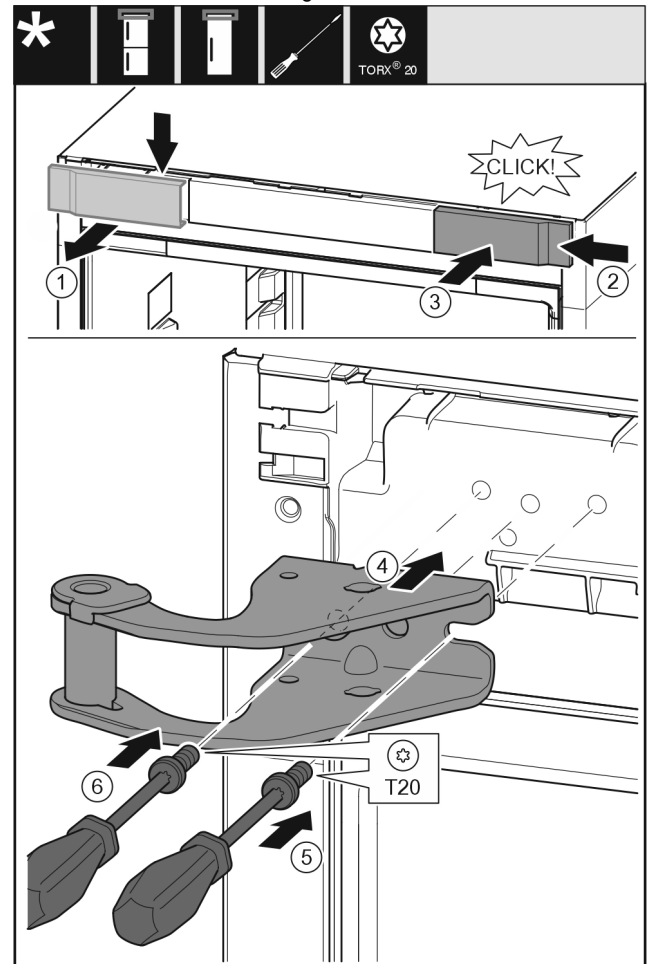

Fig. 11
- Take off the cover to the front from above. Fig. 11 (1)
- Rotate the cover 180° and clip onto the other side from the right. Fig. 11 (2)
- Latch the cover into place. Fig. 11 (3)
- Position the upper bearing bracket. Fig. 11 (4)
- Insert the screw with a T20 screwdriver and tighten it. Fig. 11 (5)
- ▶ Insert the screw with a T20 screwdriver and tighten it. *Fig. 11 (6)*